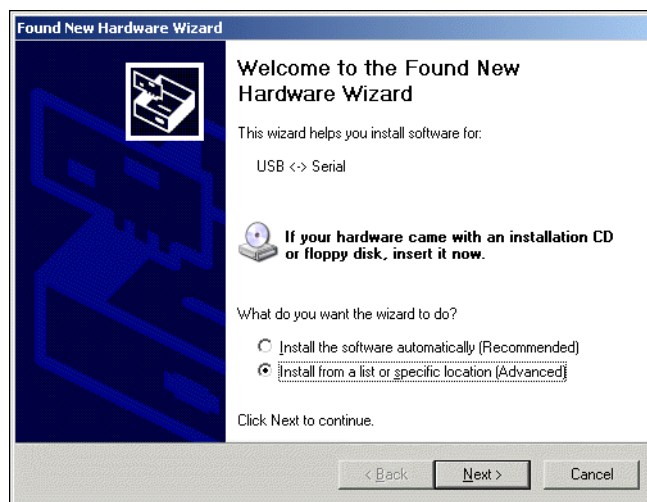

Figure 4-9. Found new hardware wizard
- 4 If the computer is NOT connected to the Internet OR the Windows Automatic Update feature is turned off, Windows will pop up a “Found New Hardware” flag on the system tray, and open the Found New Hardware Wizard (Figure 4-9).
- 1 Turn on the computer and wait for Windows to boot. Windows will automatically detect the USB device and display a "New Hardware Detected" message, The Found New Hardware Wizard opens (Figure 4-9).